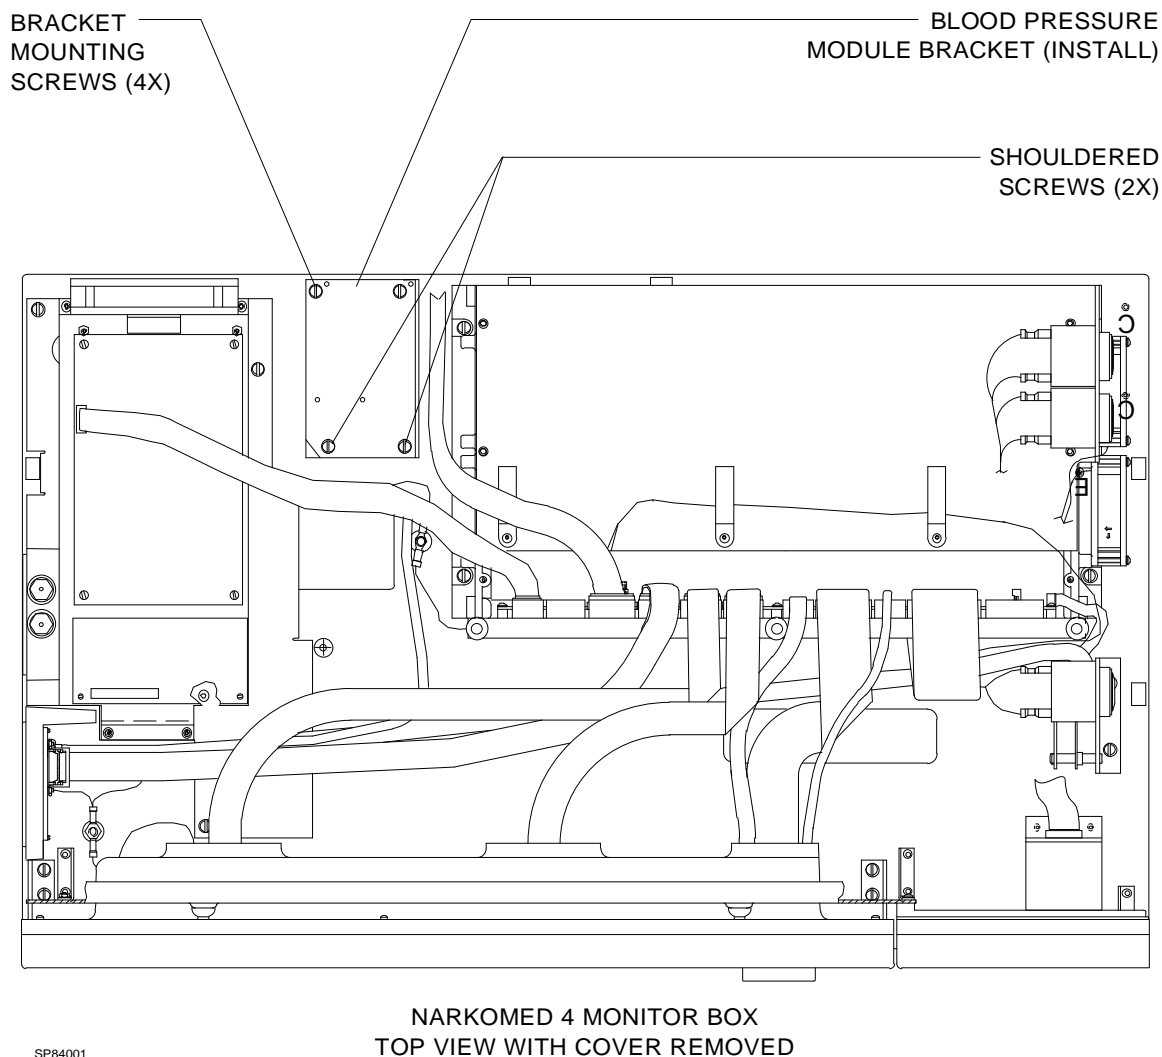

Figure 1: NIBP BRACKET INSTALLATION
9. Attach the flat baseplate (P/N 4112063) to the rubber bushings using four 8-32 x 1/4 in. flat head screws (P/N HW05007) as shown in Figure 1.
11. Install the two 6-32 x 5/16 in. shouldered screws (P/N 4111199-003) into the flat base plate in the two holes closest to the machine as shown in Figure 1.